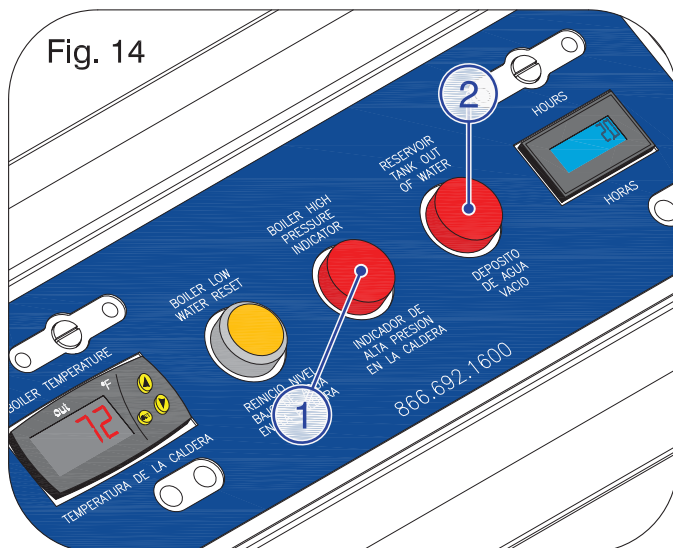
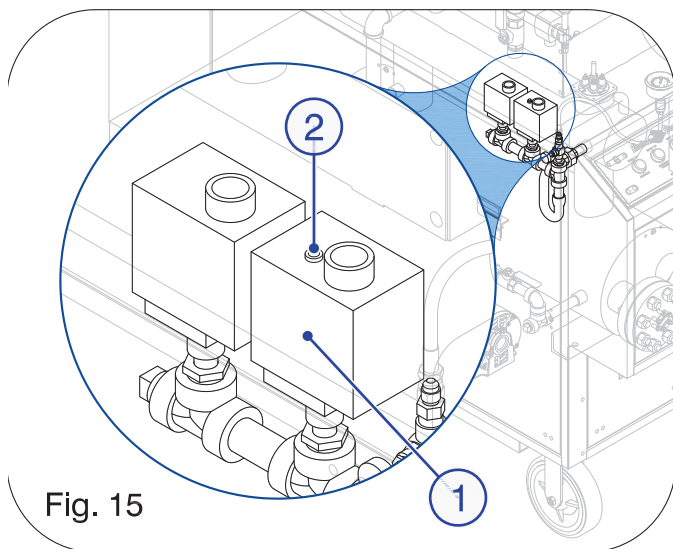

Fig. 14
Fig. 15
- If the **RED** (Boiler High Pressure Indicator) Light (1-Fig. 14) is illuminated, the High Pressure Reset Button (2-Fig. 15) on top of the (Safety) Pressure Switch (1-Fig. 15) is tripped.
- ~ When this Reset (2-Fig. 15) is tripped, the Boiler is unable to fill or heat and the **RED** (Reservoir Tank Out Of Water) Light (2-Fig. 14) is inoperable.
- ~ This Reset (2-Fig. 15) must be manually pressed in order to restore boiler functionality.
- ~ Remove the machine's side panel to access this Reset (2-Fig. 15).
- If the **RED** (Reservoir Tank Out Of Water) Light (2-Fig. 14) is illuminated, the Reservoir Tank (3-Fig. 16) is empty.
- ~ When this **RED** Light (2-Fig. 14) is lit, the Boiler is unable to fill or heat.